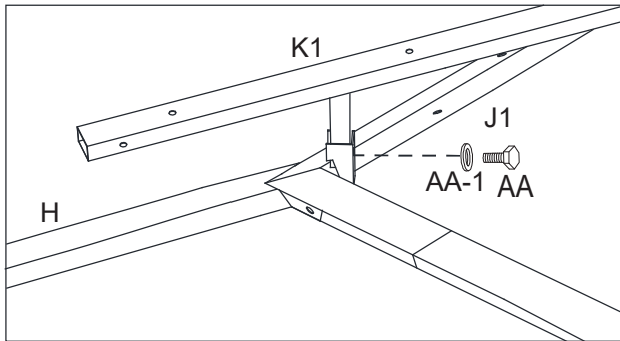

Figure 11-1
- 11.1: Secure the Roof Vent Frame to the Main Roof by inserting the Roof Vent Corner Supports (K1) to the Top Frame (J1) on the Main Roof using Bolts (AA) and Steel washer (AA-1). See Figure 11-1.